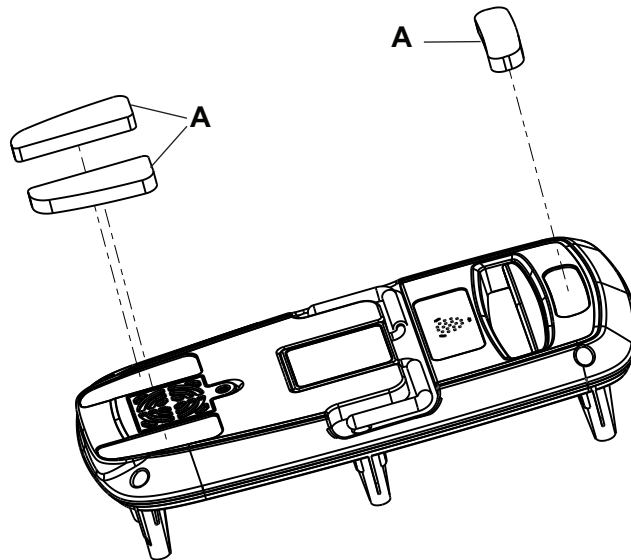

Figure 4 – Bumpers
4. Using a pick, remove the bumpers (A) from the back pump housing (Figure 4). Discard the bumpers.